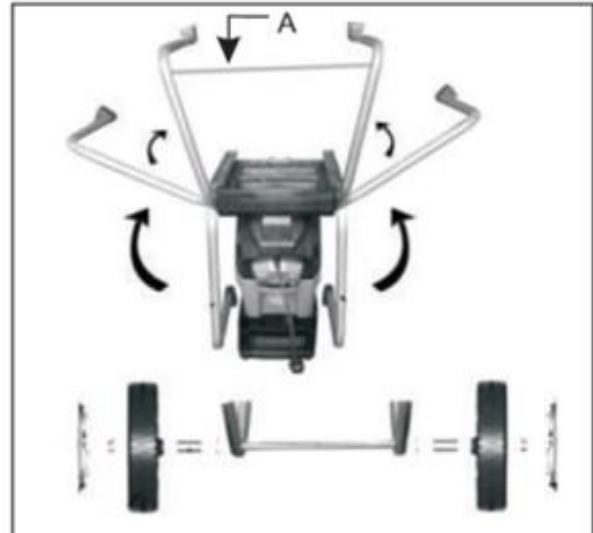

Fig.1A
1. Turn the shredder upside down and pivot the legs up ward (Fig. 1A)
2. Place the supplied wheel axle (A) through the respective openings (Fig. 1A)